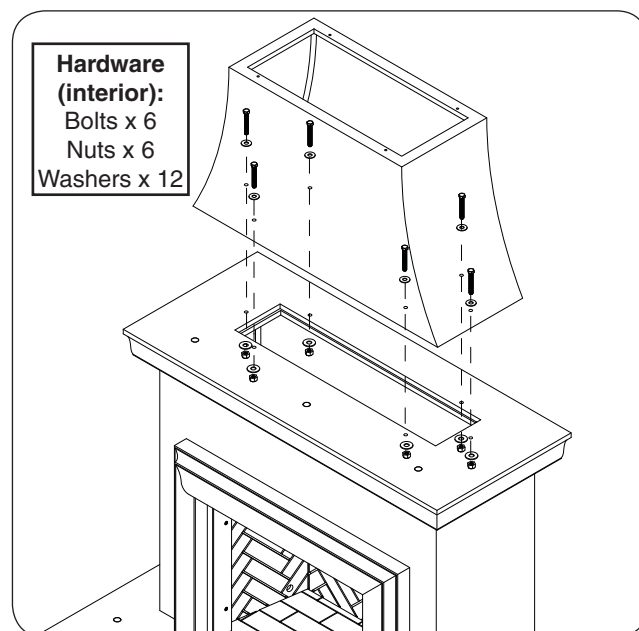

Fig. 18-1 Assemble chimney
1. Place the chimney piece on top of the mantel piece. Carefully align the pilot holes, and insert the hardware (interior hardware kits) in the order shown in Fig. 18-1. Hand tighten, then use two $\frac{3}{4}$ " open end wrenches (or equivalent) to fasten.